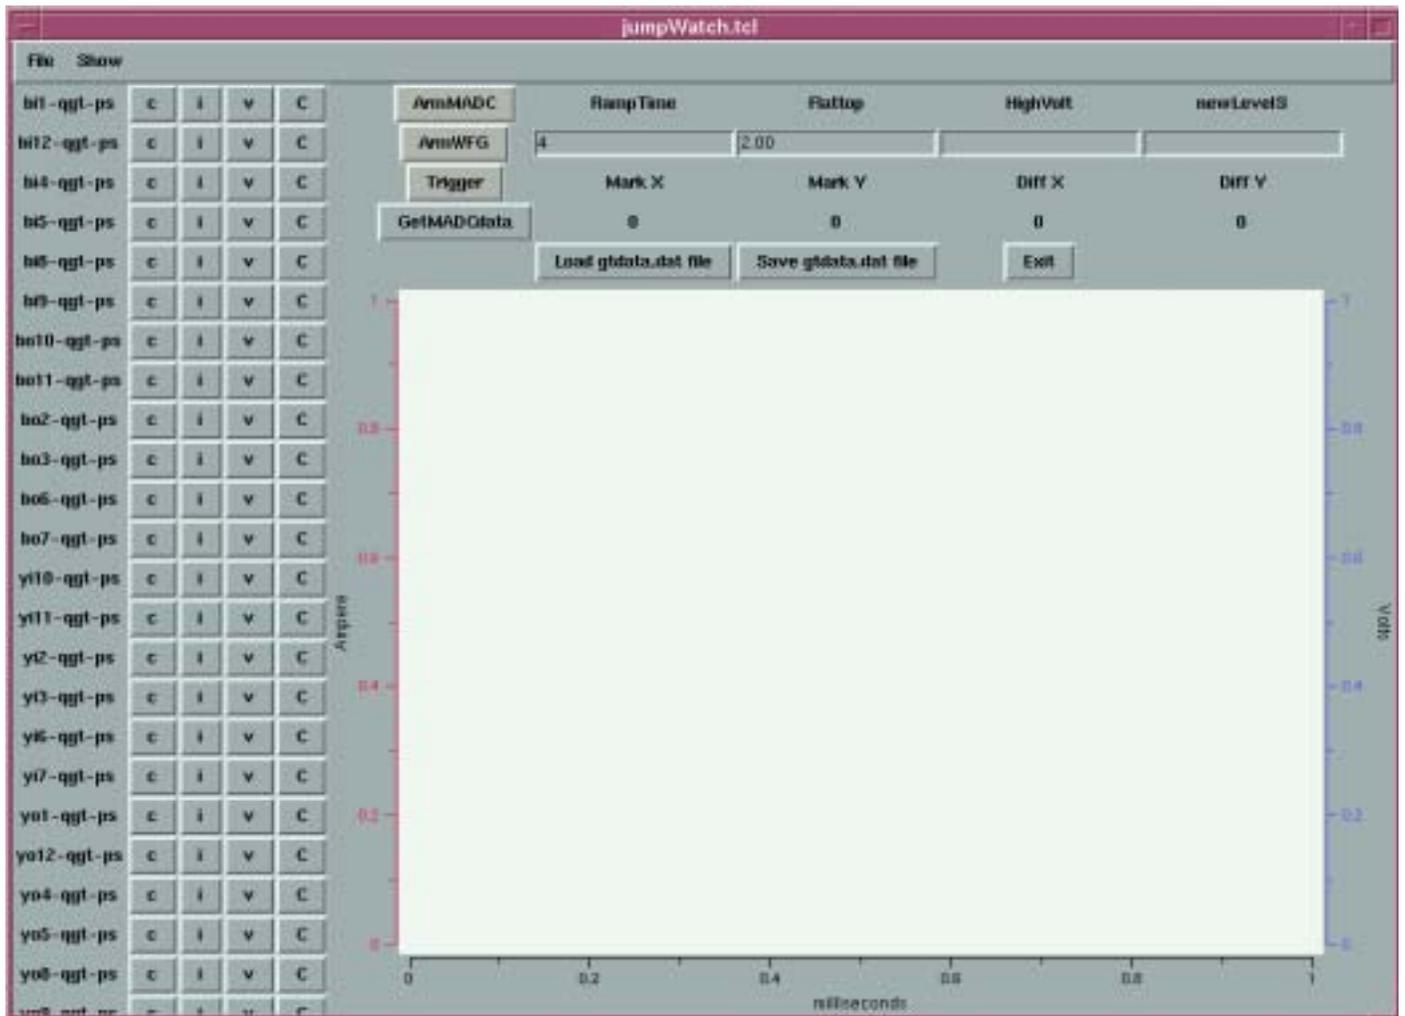

Figure 1
- 5.2 When the program comes up it brings up two windows as in Figures 1 and 2.